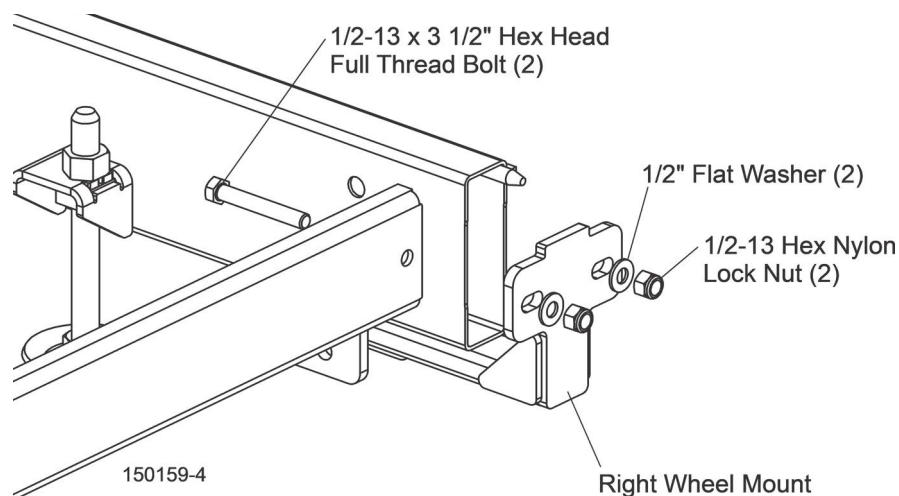

FIG. 1-4
9. Install the right wheel mount assembly to the other side of the bed using two 1/2-13 x 3 1/2" hex head bolts, flat washers and lock nuts. See Fig. 1-4.